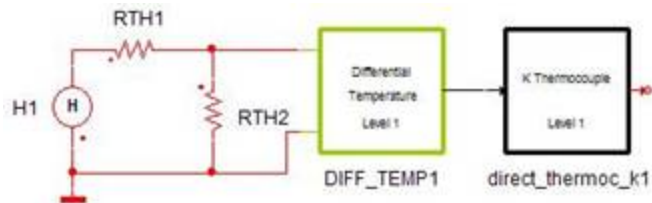

Figure 2. Application example of the Direct Polynomial Thermocouple (K) block
In this example, a heat-flow source H1 is applied to two Thermal Resistors – RTH1 and RTH2. The temperature of RTH2 is measured by a Differential Temperature sensing block DIFF_TEMP1, and the measurement result is output through a Direct Polynomial Thermocouple (K) direct_thermoc_k1. The schematic of the system is shown in Figure 2, system parameters are listed in Table 3, and the simulation results are shown in Figure 3.